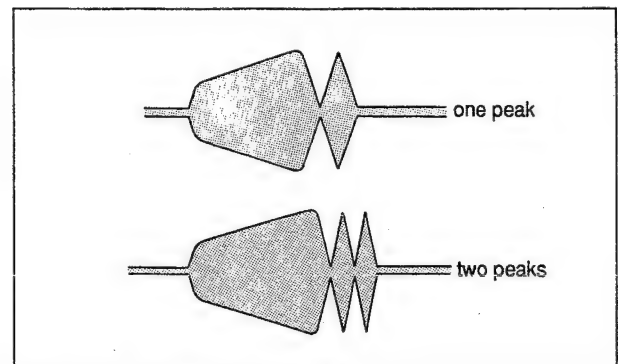

Fig. 6-3-2 Specified wave shape
3. Execute the tape free running adjustments until wave shape meets the specifications. (See Fig.6-3-2.)
- 2) When the wave shape in Fig.6-3-2 has one peak or less, rotate the height adjusting screw of Guide No.5 in clockwise direction. It causes raising the height of Guide No.5.